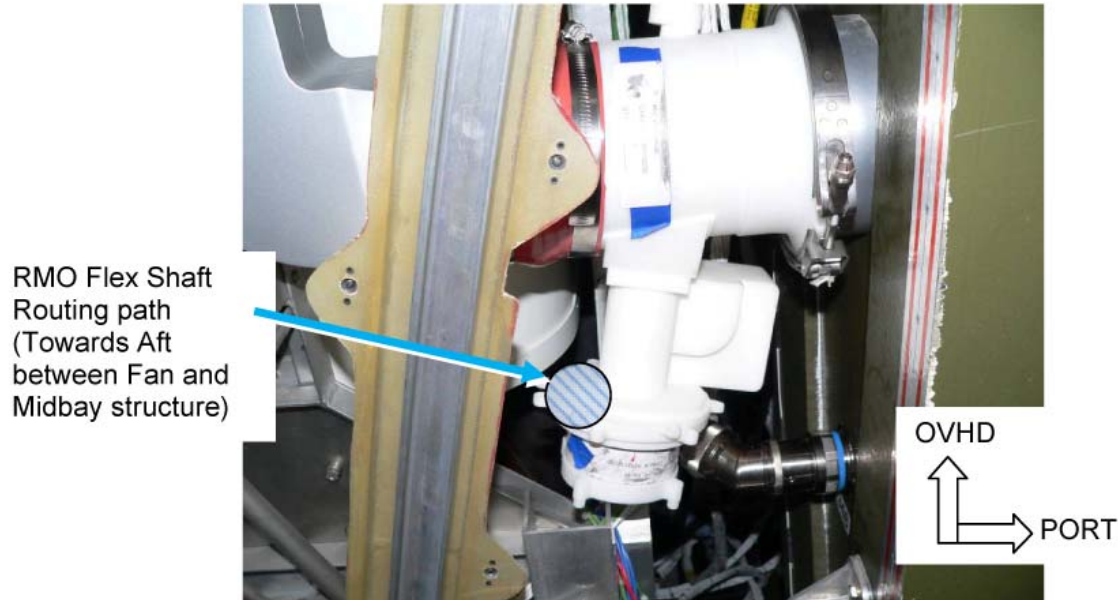

Figure 9.- IMV Valve Installed on Node 1 Port Bulkhead (Mockup in B9).
2.11 Align IMV Valve on Node 1 Port-Aft Bulkhead with mechanism housing and electronics assembly oriented slightly forward (12 degrees) of nadir. Minimize rubbing Teflon seals on Bulkhead. Refer to Figure 9.
2.12 RMO Flex Shaft will be routed between Node 1 Cabin Fan and Midbay structure. Rotate RMO Flex Shaft Interface to align with RMO Flex Shaft routing path: slightly starboard (11 degrees) of aft. Refer to Figure 9.